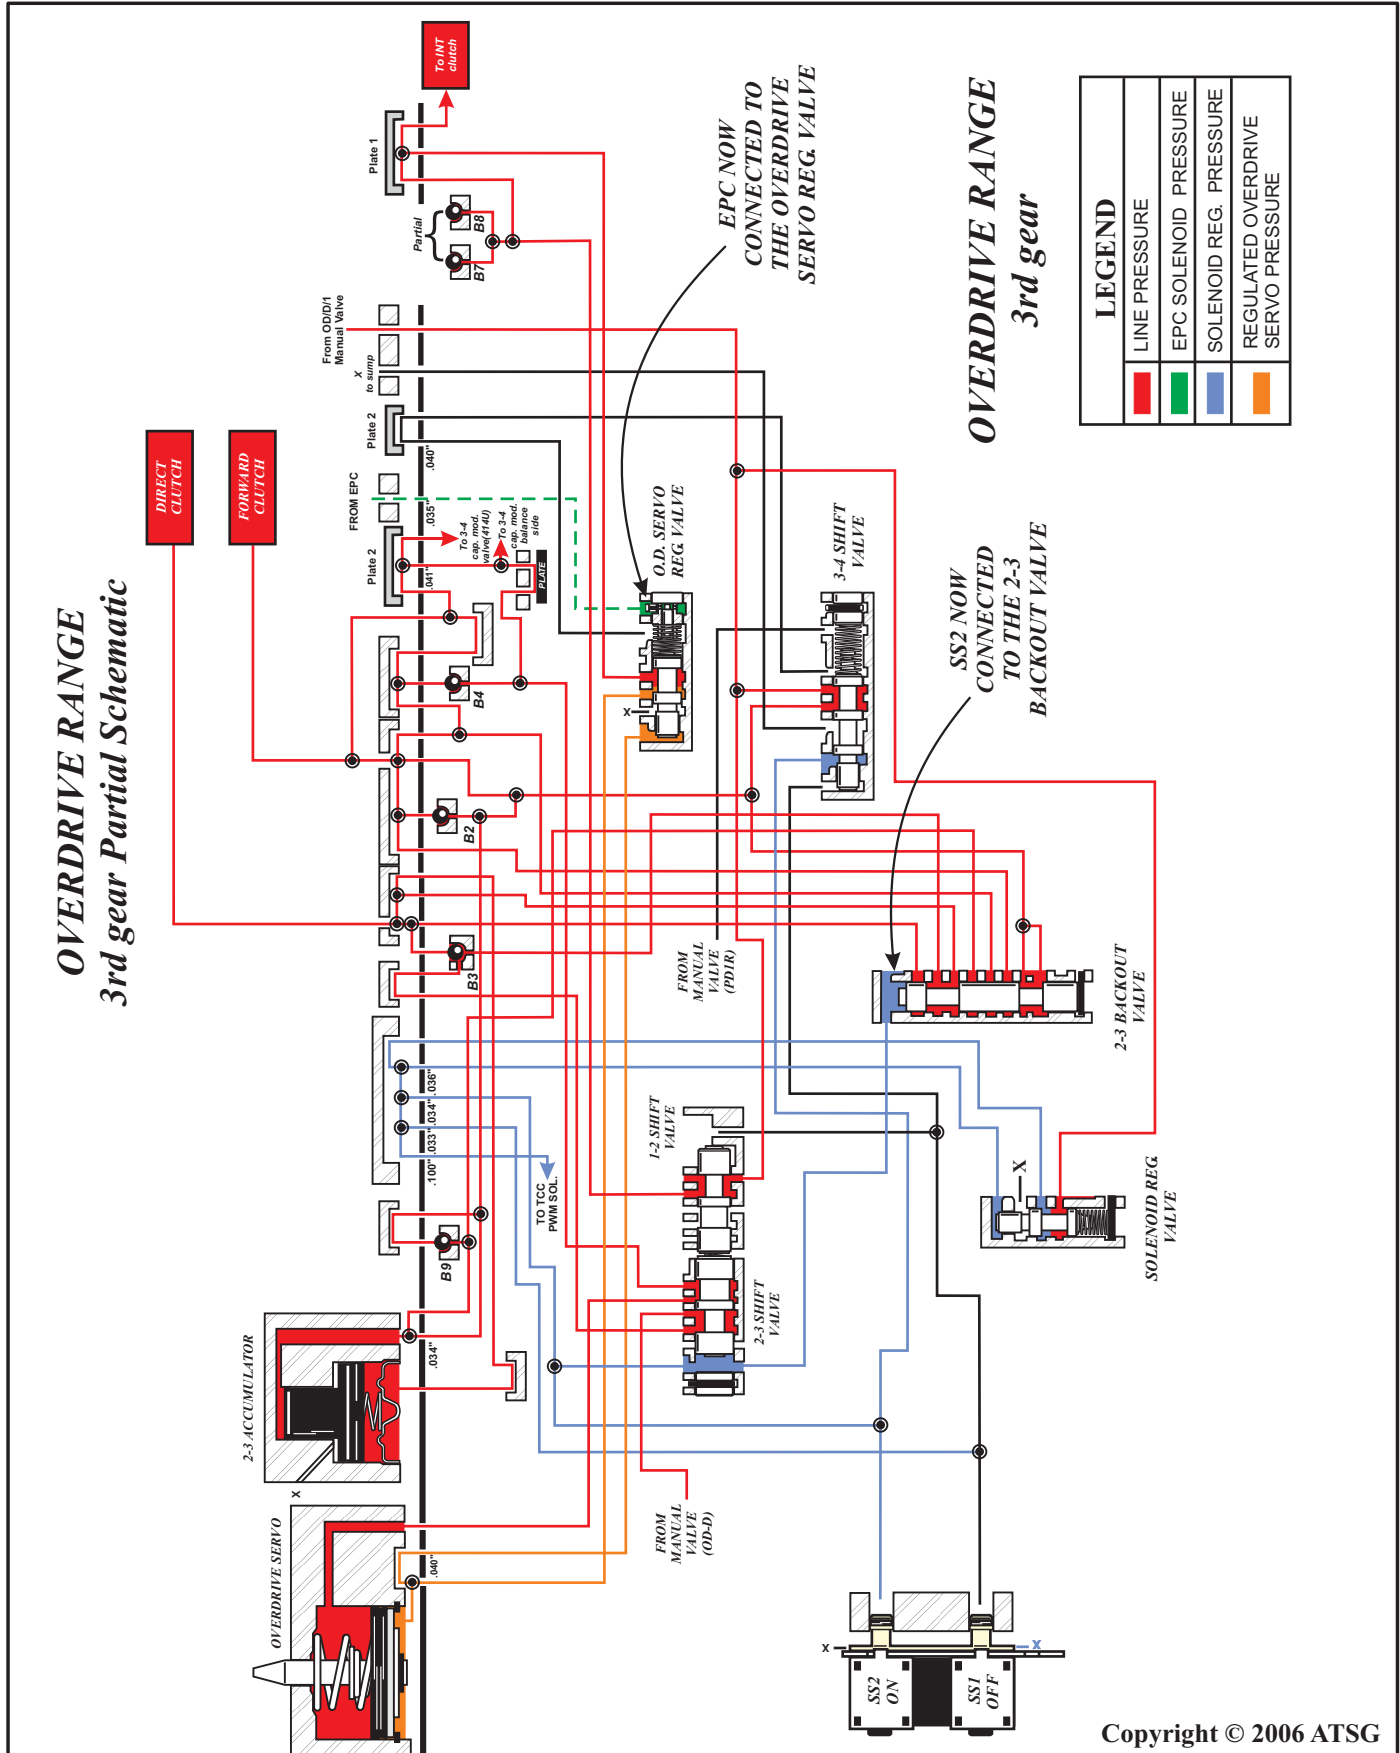

Figure 11
- (6) CASE - The Overdrive Servo Bleed orifice, as shown in Figure 10, was eliminated to accommodate the hydraulic circuit changes in the Overdrive Servo Regulator Valve. See Figure 11 for a partial hydraulic circuit diagram identifying the 2001 and up hydraulic circuit.